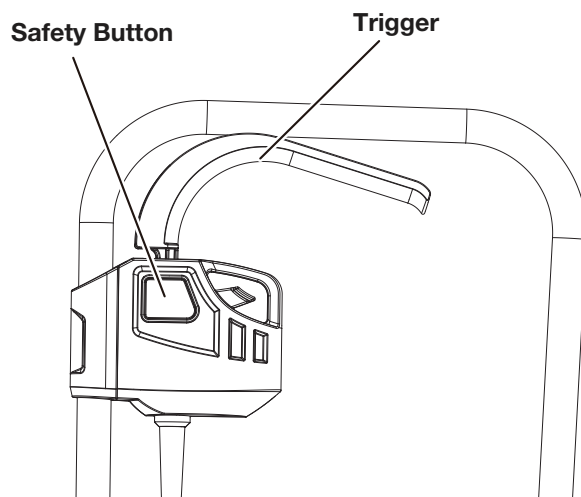

Fig. 4
2. Press the safety button and pull the trigger towards the top handle. The mower will start, and blade immediately rotates. When operating the machine, you can release the safety button and the machine will operate (Fig. 4).